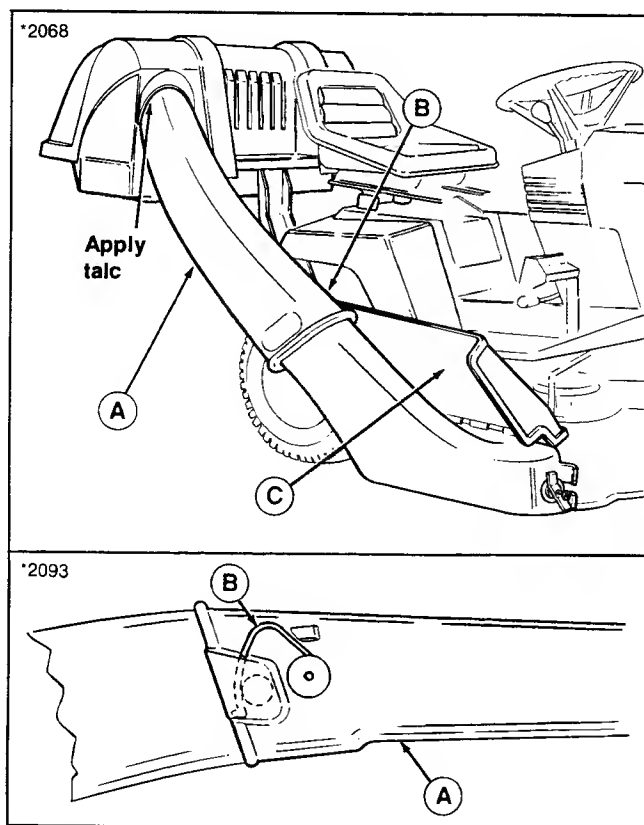

Figure 5.
4. Install tube (A, figure 5) as far as possible into opening to clear adaptor and install over adaptor. Secure by rotating wire form (B) down into locked position over rubber cup on adaptor (see inset).
6. To remove grass catcher, reverse above steps. Make sure deflector (C) is in proper operating position (see figure 5).